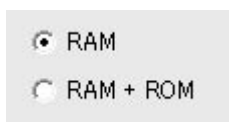

Fig.13 Memory selection
**5** Click the “RAM” radio button or “RAM+ROM” radio button to select the type of memory in which the data will be saved. (Fig.13) If “RAM” is selected, the image data is saved only in the frame memory and so it cannot be used after the AW-SW350 power has been turned off and back on again. If “RAM+ROM” is selected, the image data is saved in the flash memory and so it can be used after the AW-SW350 power has been turned off and back on again. However, the actual transfer takes longer than when “RAM” is selected.